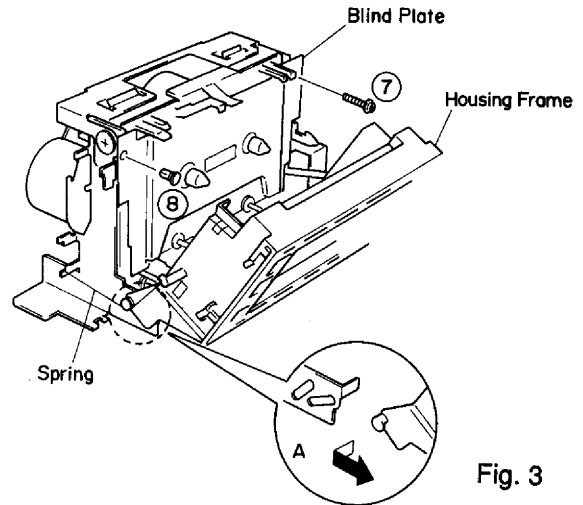

Fig. 3
d. Remove the blind plate by removing the 1 screw (⑦) and 1 plastic rivet (⑧) in fig. 3.